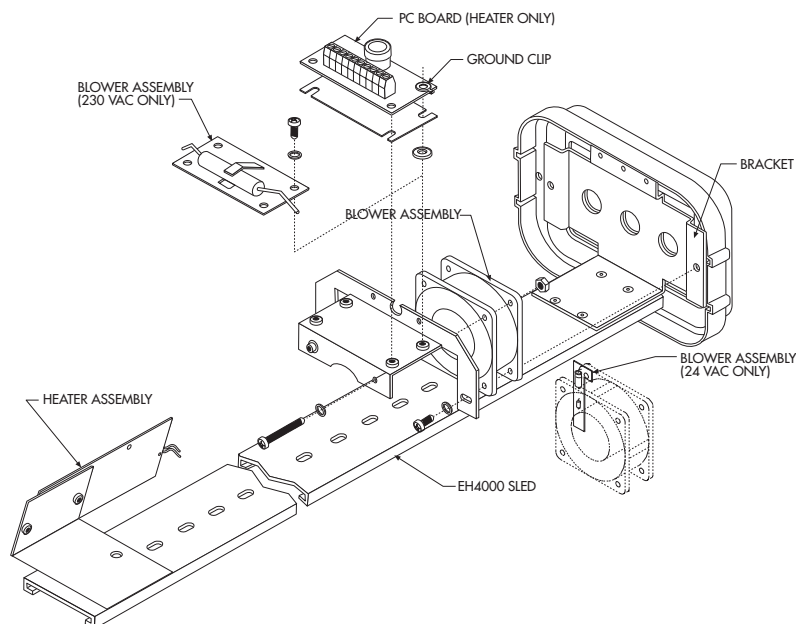

Figure 1. Blower/Heater Kit Installation
1. Attach the blower assembly onto the bracket at the rear of the camera sled using the hardware provided (see Figure 1).
1. Attach the PC board assembly onto the bracket at the rear of the camera sled (refer to Figure 1).
2. Attach the PC board and blower assembly onto the bracket at the rear of the camera sled (refer to Figure 1).